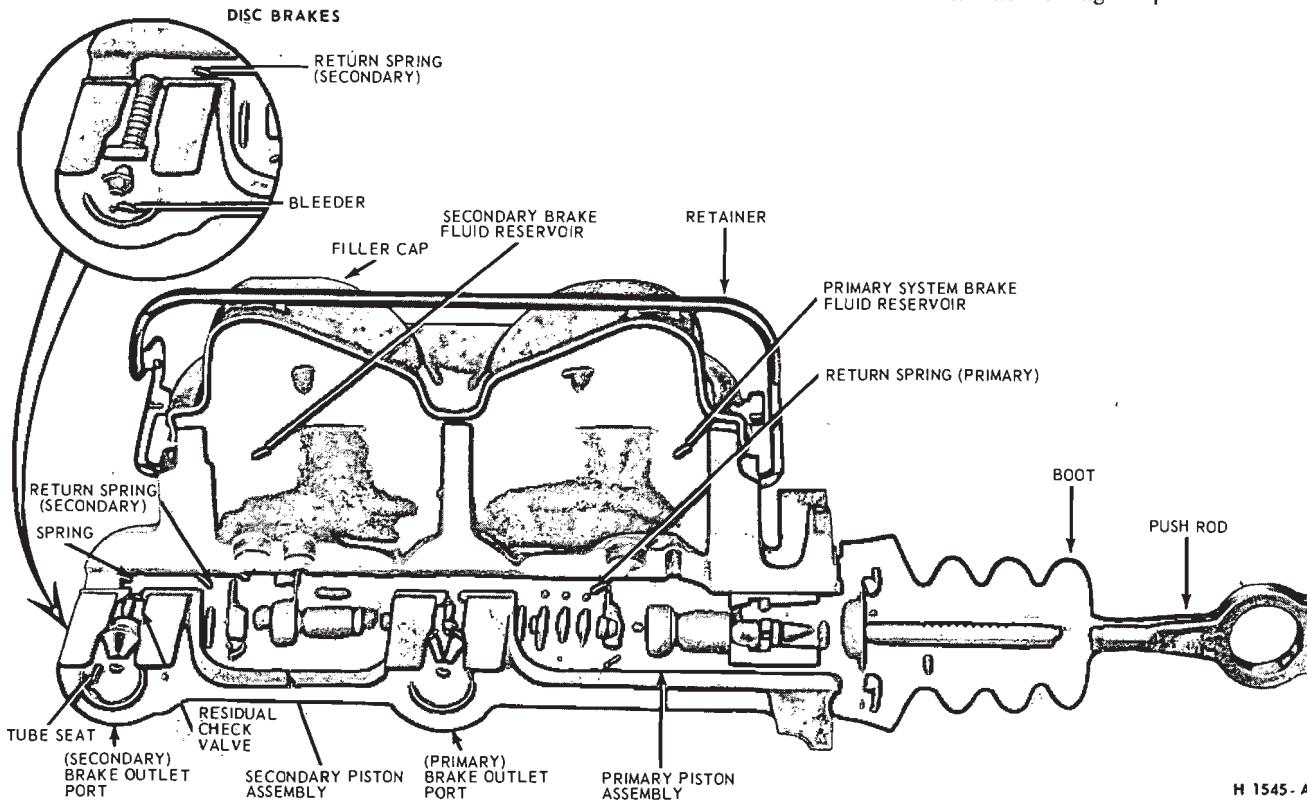
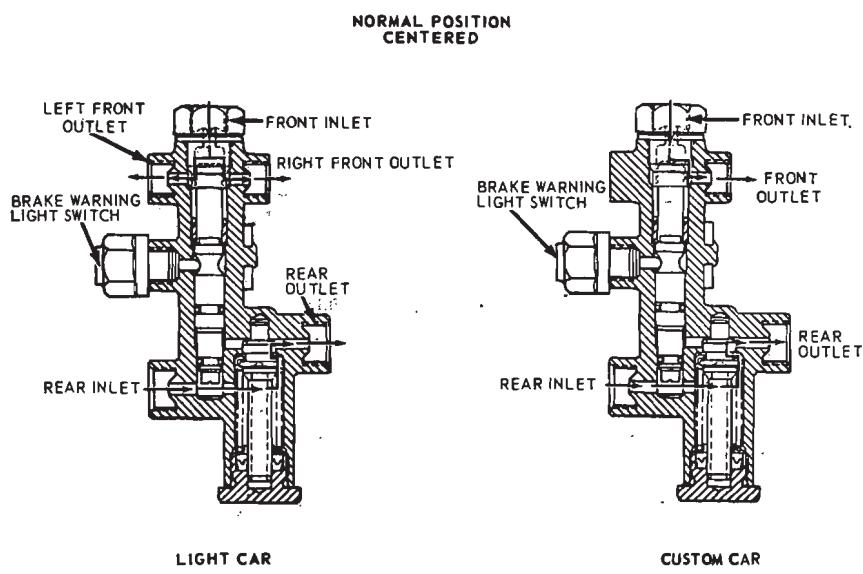

FIG. 2—Dual Master Cylinder—Typical
FIG. 3—Pressure Differential and Pressure Control Valve and Brake Warning Light Switch
The dual-master cylinder brake system has been incorporated in all models to provide increased safety. The system consists of a dual-master cylinder (Fig. 2), pressure differential valve assembly and a switch (Fig. 3). The switch on the differential valve activates a dual-brake warning light, located on the instrument panel.
3. Remove the caliper locating pins and lower stabilizer attaching bolts and discard the stabilizer (Figs. 3 and 6).
3. Remove the inner shoe hold down clips (Fig. 3).
4. Place a small screwdriver under the outer shoe retaining clip tang and lift away from the pin groove and slide the clip from the shoe retaining pin. Remove the other brake shoe retaining clip. See Fig. 3 and remove the outer brake shoe.
9. Remove the caliper locating pin insulators (Fig. 3).
1. Install the inner shoe and lining assembly in the anchor plate, then install new locating pin insulators (supplied in the shoe and lining kit). Use a cloth to protect the insulators during installation (Fig. 3). Check that both insulator flanges straddle the anchor plate.
5. Install the outer brake shoe and lining assembly, then install the retaining pins and retainer clips (Fig. 3).
and lift away from the pin groove and slide the clip from the brake shoe retaining pin. Remove the other brake shoe retaining clip. See Fig. 3 and remove the outer brake shoe.
1. To install a new inner brake shoe in the anchor plate, install new caliper locating pin insulators (supplied in the brake shoe and lining kit). Use a cloth to protect the insulators during assembly. Check that both insulator flanges straddle the anchor plate (See Fig. 3).